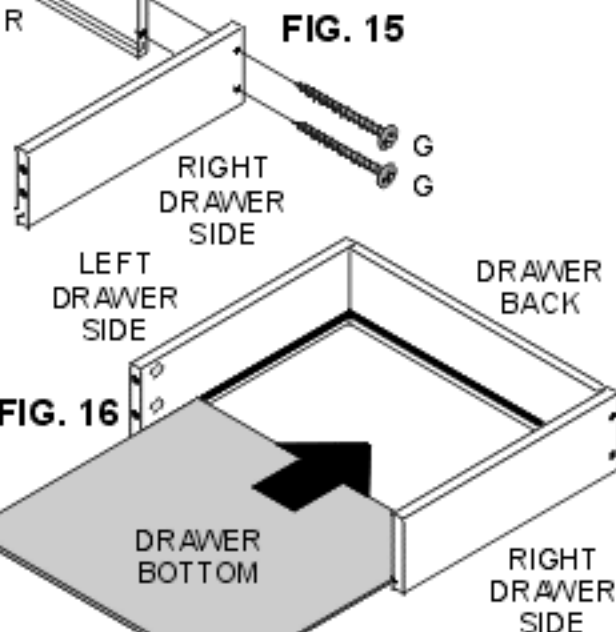

FIG. 15
Stand LEFT and RIGHT DRAWER SIDE on a flat, non-scratch surface, all slots facing down. Align and attach DRAWER BACK between DRAWER SIDES using (2) #6 X 1-1/4" PAN HEAD SCREWS (G) each side. **NOTE:** Insure that all slots face inside of DRAWER. FIG. 15